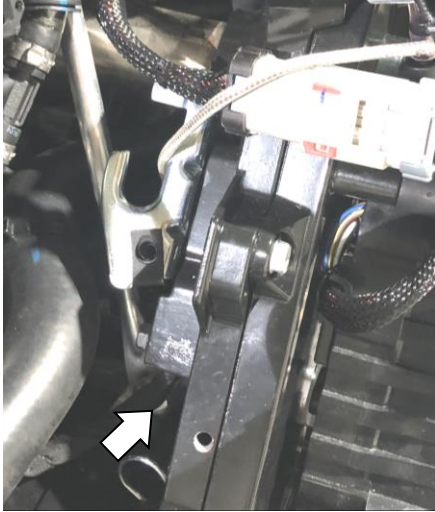

Figure 5
- iii) Connect the exhaust sensor to the connection lead, then feed the sensor behind the chaincase from back to front, routing the wire under the drive axle and tight to the chaincase. **Refer to Figures 5 & 6.**